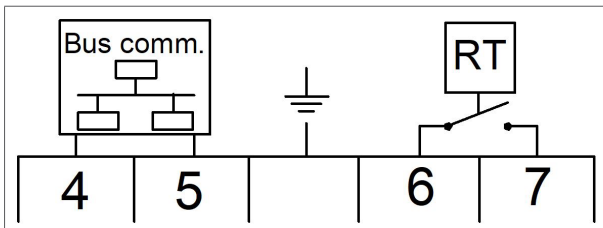

Figure 6 - Bus communication connection
1. Connect the two control wires to terminals 4 and 5 (see figure 6 or the electrical wiring diagram in §11.).